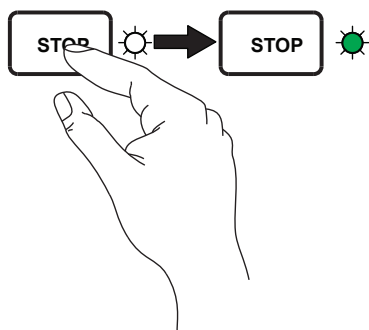

Figure 44. STOP Button (Unit Shutdown)
4. Press the **STOP** button (Figure 44) on the control panel. The compressed air remaining in the air compressor will automatically discharge. **DO NOT** use the air outlet valves to discharge the remaining air.